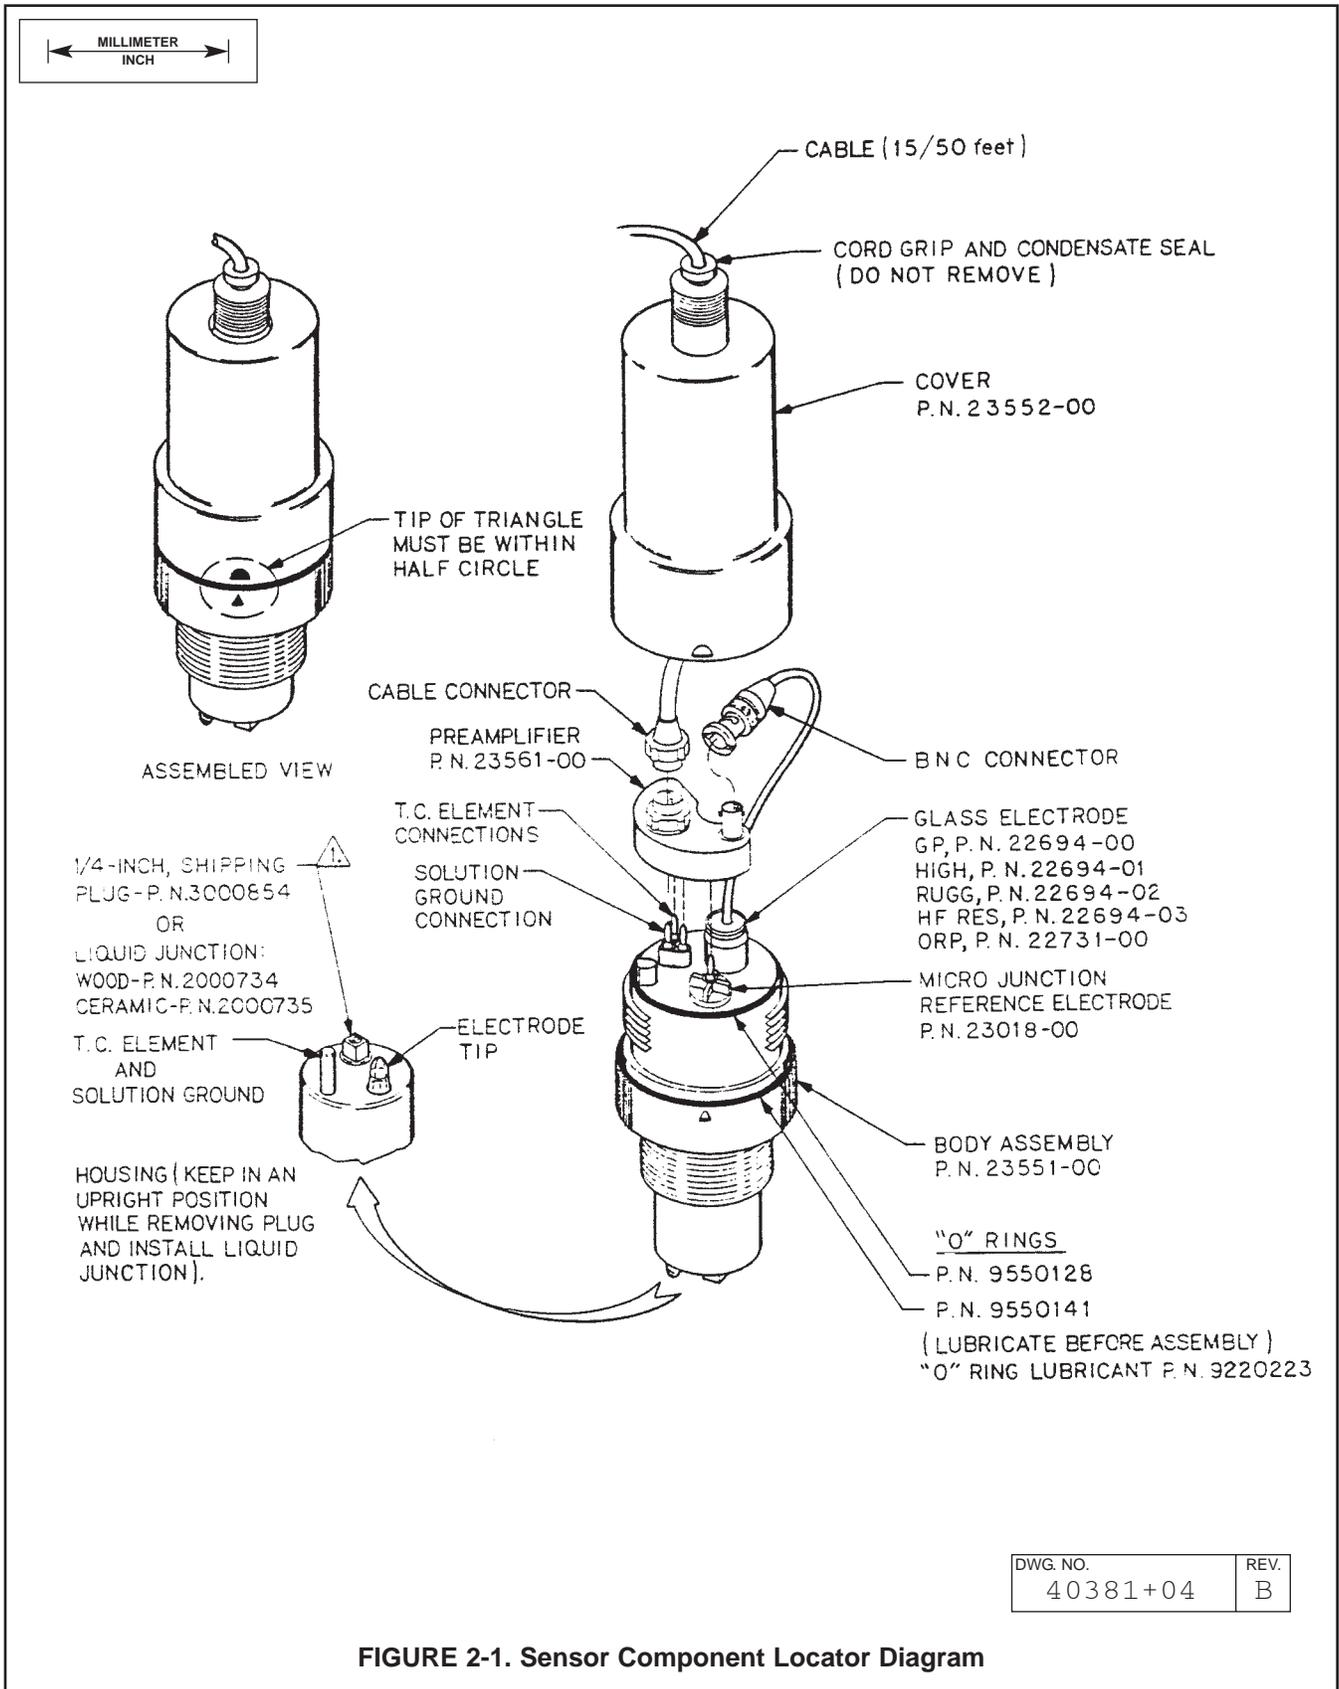

FIGURE 2-1. Sensor Component Locator Diagram
**2.1 INSTALLATION.** Prepare the sensor for installation as follows (see Figure 2-1):
12. While holding the sensor in an upright position (see Figure 2-1), remove the 1/4-inch shipping plug from the electrode tip end of the sensor.